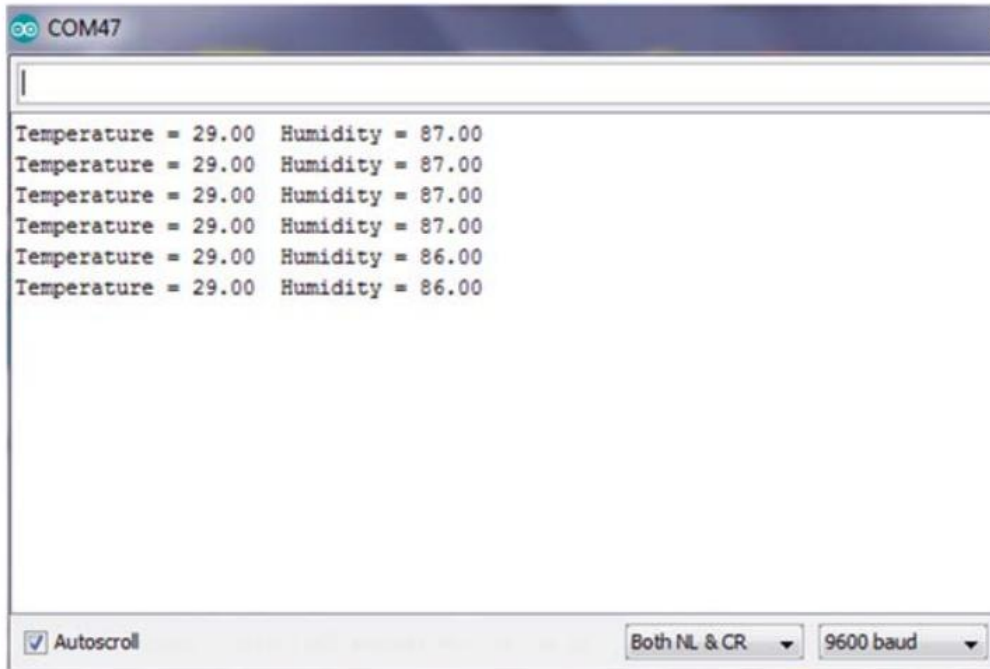

Figure 5.18 Sample output
- Then, the Serial Monitor baud rate is set to 9600 and the DHT library is initialised. The remainder of the program is executed in an endless loop. Inside this loop the relative humidity and the ambient temperature are read and displayed on the Serial Monitor every second. Figure 5.18 shows a sample output displayed on the Serial Monitor